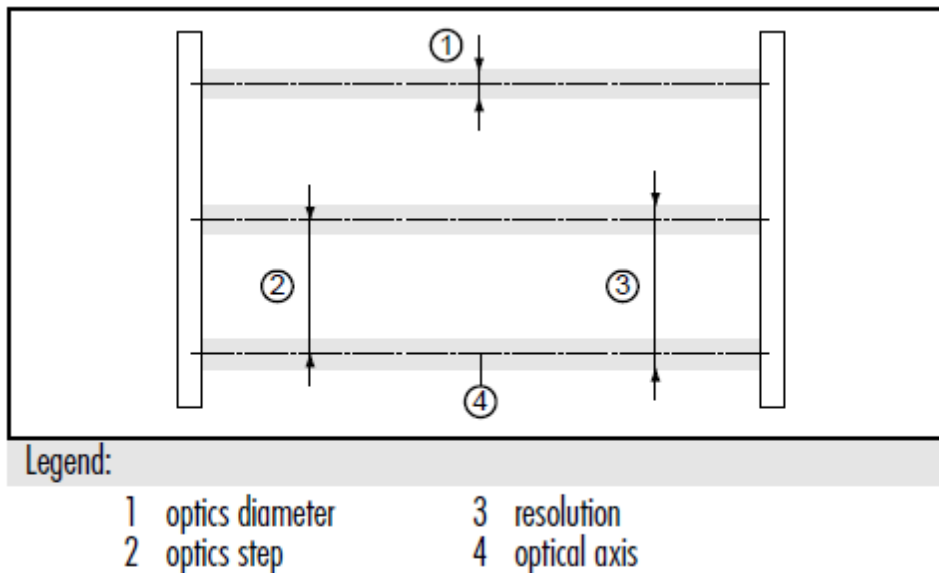

Fig.4.1 Parameters of light grids
- R: resolution or detection capacity (the smallest object that can be detected throughout the entire protected zone with absolute certainty [mm]). In the case of safety device with separate beams, the resolution is given by the step of the optics plus the diameter of the optics, as shown in *Fig.4.1*.
R: resolution of light grid [mm]= step of the optics +width of beams (Fig.4.1).